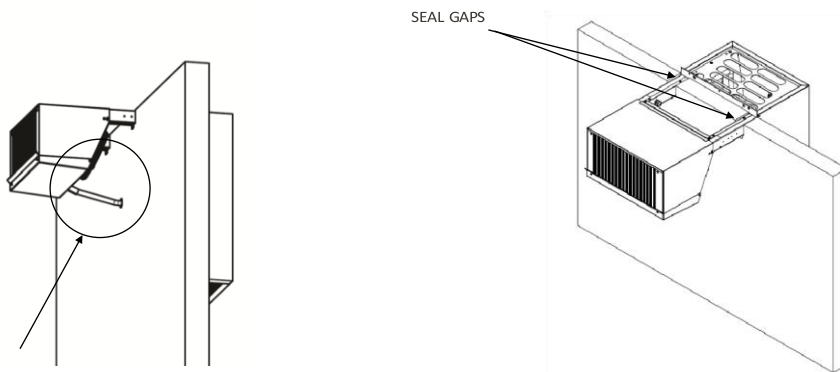

Fig.11 Monoblock installation
- 2) Lift the monoblock with a forklift or other suitable lifting equipment and position the unit so that the supports correspond with the slots created in the cell wall and attach the monoblock structure to the wall by adjusting the mounting bracket as shown in Fig.11.